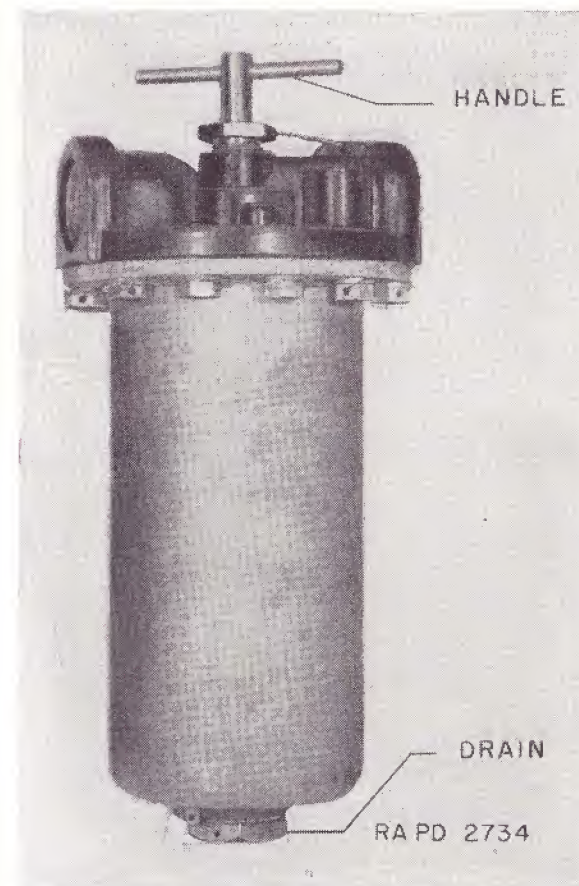

FIGURE 10.—Disk type oil filter.
b. The handle on the disk type oil filter (fig. 10) should be turned *one complete* revolution (in either direction) each day. If examination of the oil shows any appreciable amount of dirt or discoloration, the filter should be removed and exchanged for a new one.